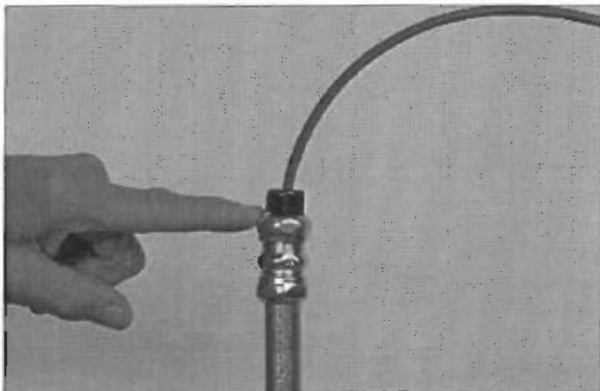

FIGURE 90
11. Tighten nut on strain relief on top of conduit riser. See Figure 90.